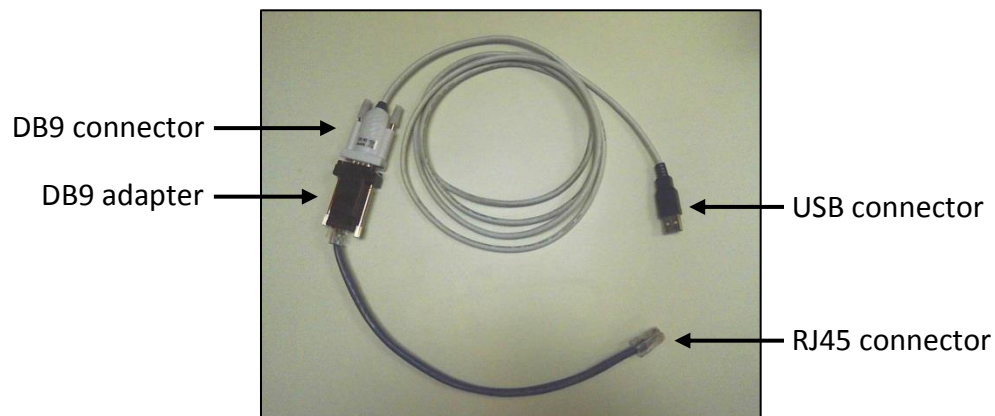
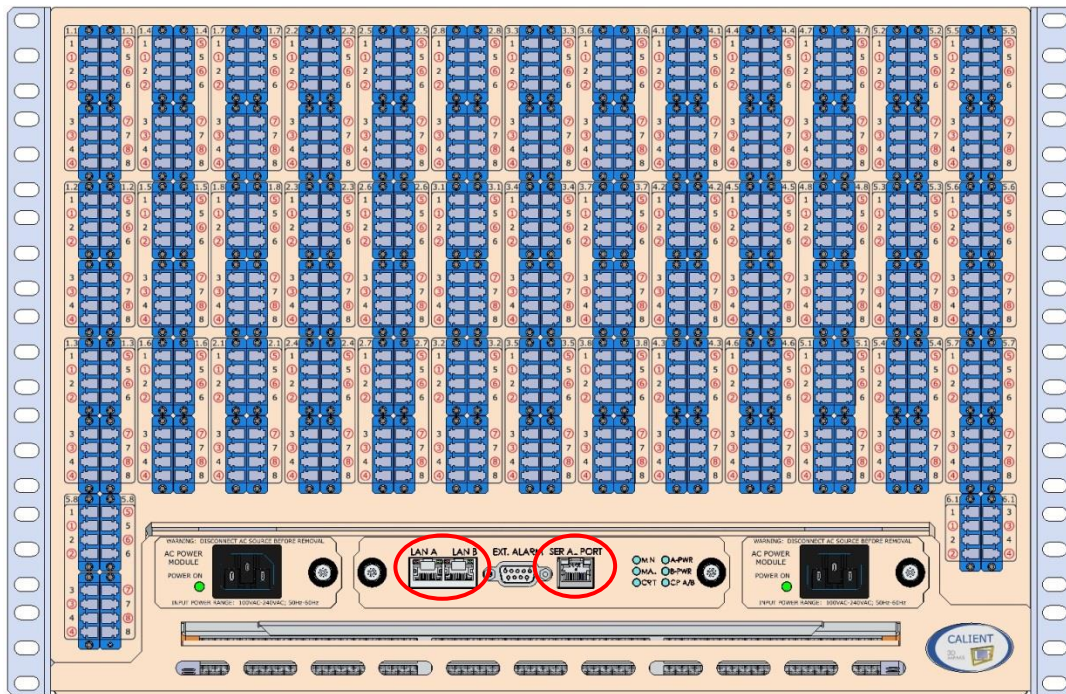

Figure 11 – Assembled Serial Cable
Figure 12 – S-Series OCS (Front View)
The S-Series OCS has two Gigabit Ethernet (GbE) RJ45 connectors—labeled LAN A and LAN B—on the center panel (Figure 8) at the bottom of the switch (Figure 12). These connections enable you to control the system using TL1 via a Telnet session, or using the browser-based graphical user interface (GUI).
The cabling used to connect to the serial interface on the S-Series OCS uses an RJ45 connector, which requires a combination USB-to-DB9, RJ45-to-DB9 adapter cable (Figure 11). Table 2 lists the pinouts for the RJ45 connector used for the switch's serial interface.
2. Connect the RJ45 end of the assembled serial cable (Figure 11) to the serial connector labeled SERIAL PORT on the center panel (Figure 8) at the bottom of the S-Series OCS chassis (Figure 12).